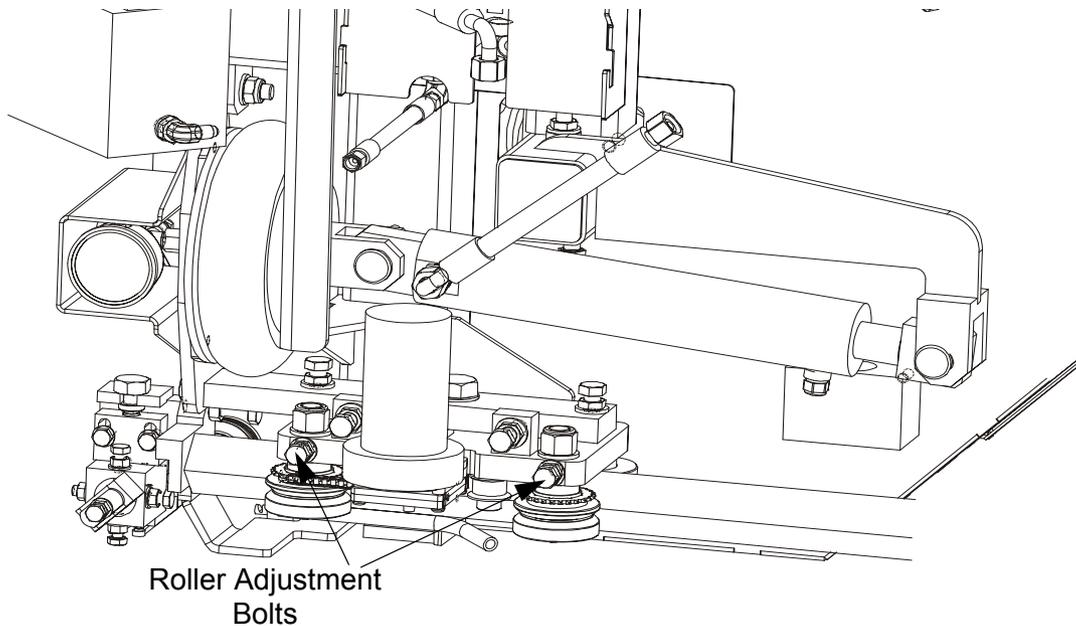

FIG. 5-3
**See Figure 5-3.** Loosen the jam nuts and turn the adjustment bolts in to tighten the blade guide arm rollers. Retighten the jam nuts.